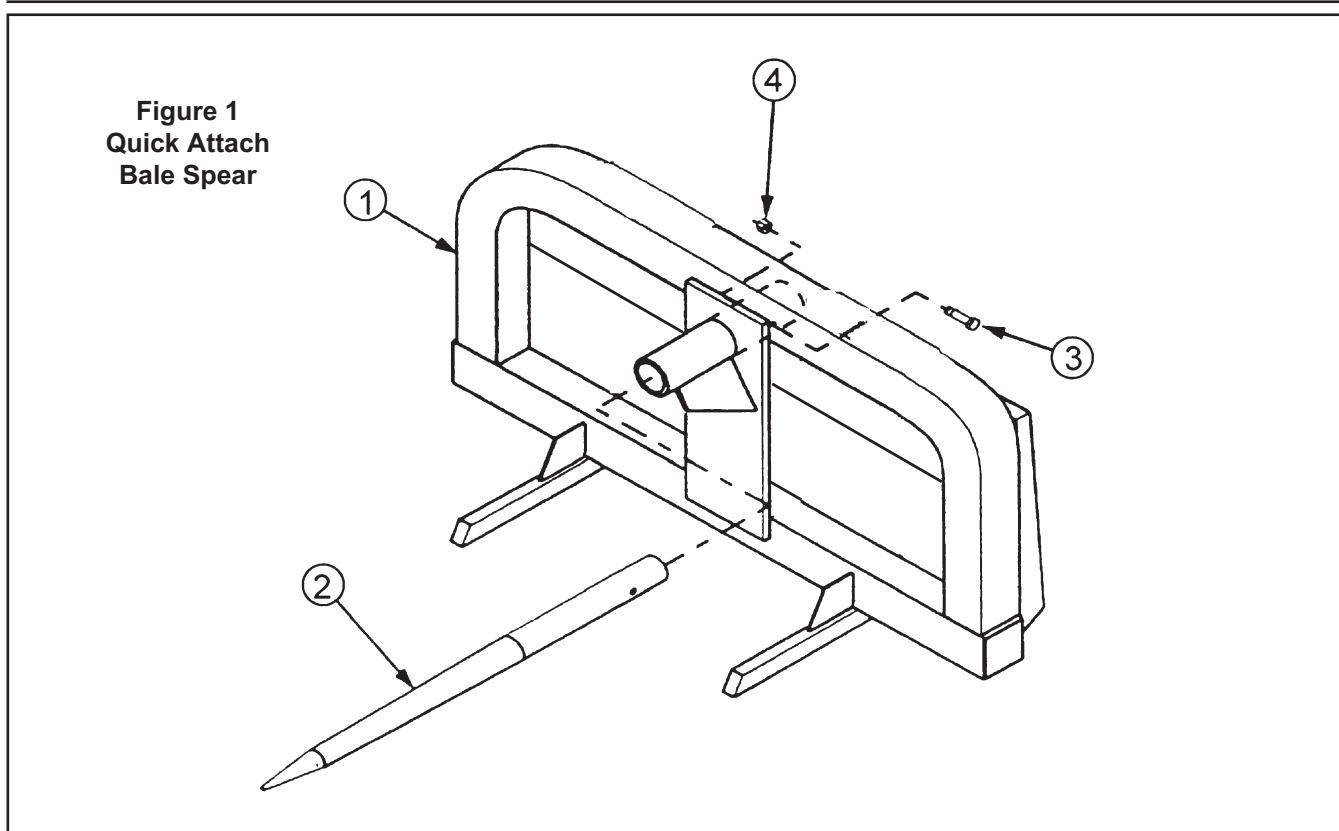

Figure 1
**ASSEMBLING ROUND BALE SPEAR (Figure 1)**
1. Remove banding which secures bale spike (2) to bale spear attachment bracket (1). Temporarily remove 1/2 x 3-1/4 cap screw (3) and lock nut (4).
2. Place spike (2) into sleeve of bale spear bracket (1). Fasten spike to bracket using 1/2 x 3-1/4 cap screw (3) and lock nut (4).